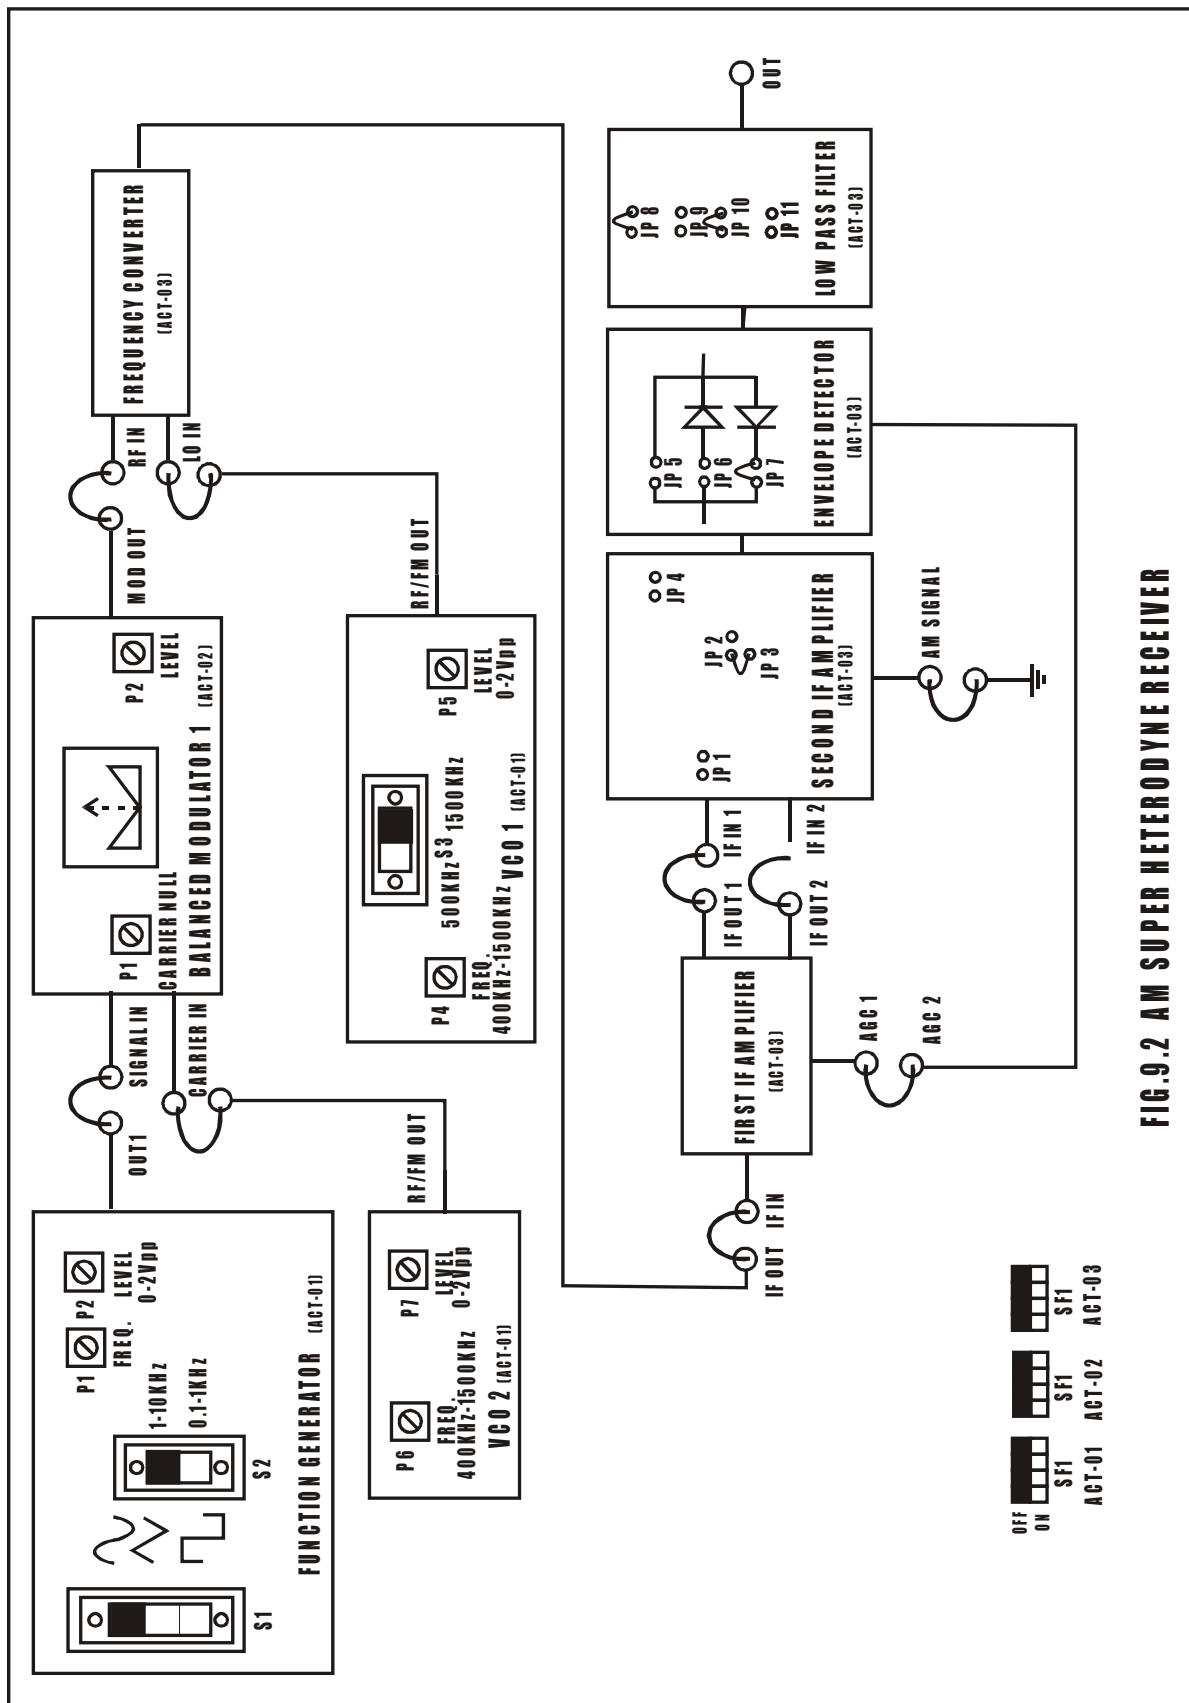

FIG.9.2 AM SUPER HETERODYNE RECEIVER
- Refer to the fig.9.2 & Carry out the following connections and switch settings.